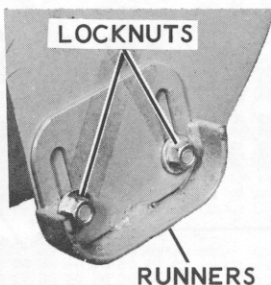

Figure 1
a. An adjustable runner is provided on each end of the blower housing (figure 1). Raising or lowering these runners controls the distance the scraper blade is held above the surface being plowed. Adjustment is accomplished by loosening the two nuts on each of the runners to the desired position and retightening the nuts. When plowing on concrete or other hard surfaces, these runners should be adjusted so that they are approximately 1/8-inch below the scraper blade. When plowing gravel side-ways or other gravel areas, adjust the runners so that they are 1-1/4-inch below the scraper blade.